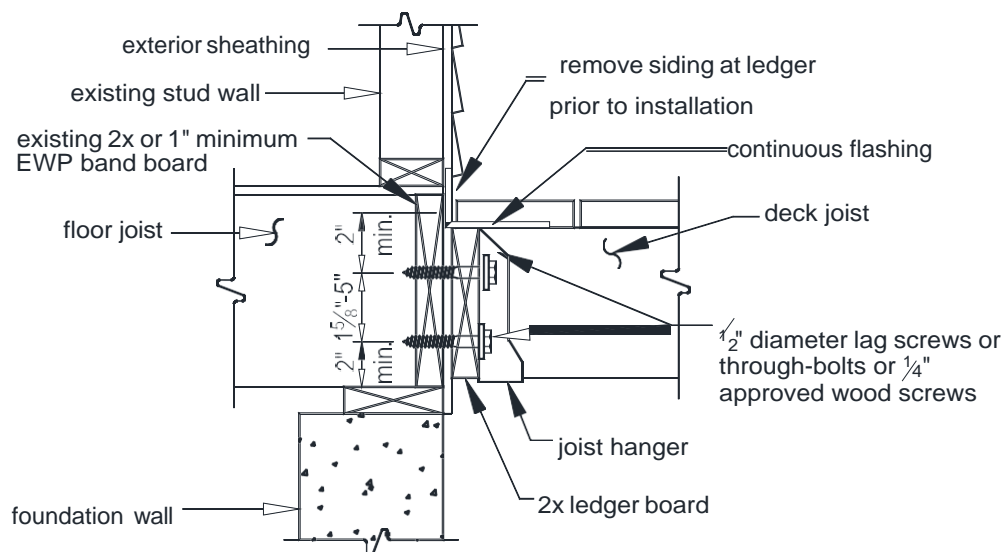

FIGURE 20: LEDGER BOARD-TO-BAND BOARD ATTACHMENT
- The ledger board shall be attached in accordance with one of the conditions shown in **FIGURES 20 through 22.**
- Continuous flashing, as shown in **FIGURE 20**, is required at the ledger board when attached to wood- framed construction.